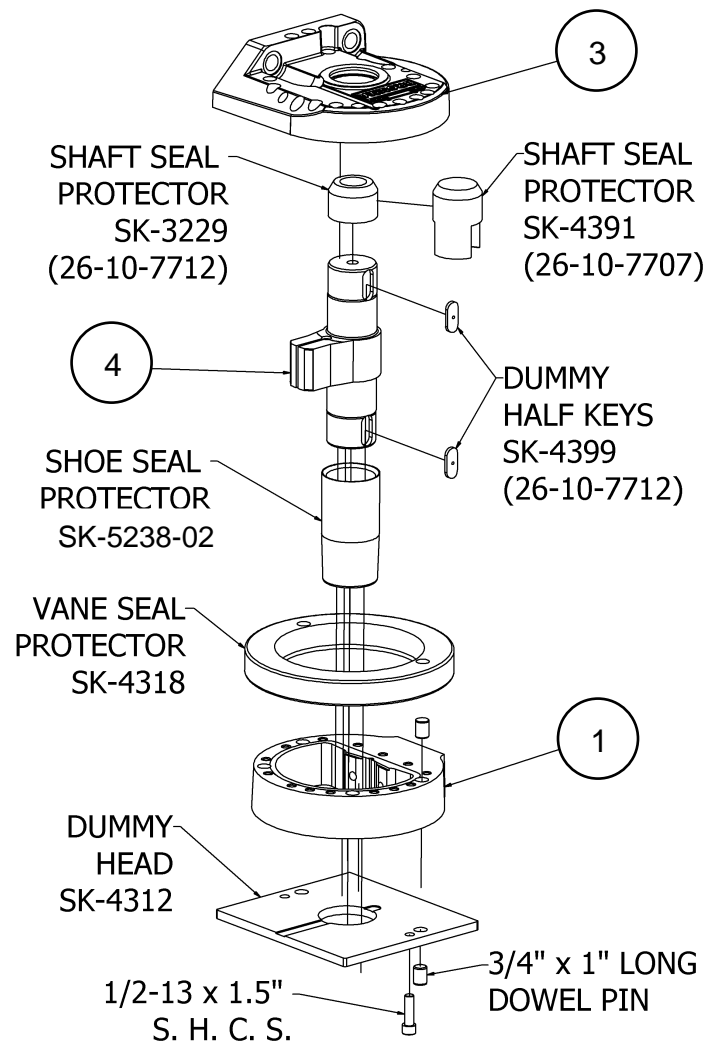

Figure 3 Assembly Tools
During the assembly of the unit, the seals need to be protected. Assembly tools are required to install seal kits. The tools are; a dummy head - to hold the shoe seal during installation, a shoe seal protector, a vane seal protector, and a shaft seal protector (reference fig 3 & table 3). Use a lubricant on all seals and internal parts that is compatible with the driving fluid used. DS-ES Lubriplate by Fiske Brothers is used at the factory. Petroleum jelly is also compatible in most hydraulic systems.
- G. Place two wavy springs (20), hub seal ring (19), and hub seal (18) into the head (3). Ensure that hub seal (18) is free to move axially. **NOTE:** Movement of this seal is essential to the proper performance of the actuator. Seal should be a slip fit on the O.D. of the seal counterbore. Be sure top edge of counterbore is sharp- but burr free.
- H. Place head seal (O-ring) (10) into the groove in the head (3).
- I. Lubricate all seals and internal parts with grease, sufficient to maintain the seals in position when the head is inverted and installed on the body (1)
- J. (Unit 26-10-7707) Install the shaft seal protector onto the head of shaft (4). (See figure 3). Invert the head (3) and carefully slide it down over the shaft. **DO NOT** hammer on the head or allow the hub seal to become dislodged from its cavity as the head is mated to the body. Precisely align the dowel holes in head (3) and body (1). Install two screws (15) 180° apart and tighten the screws to pull the head (3) onto the body (1).
(Unit 26-10-7712) Install the shaft seal protector into the bearing bore of head (3). (See figure 3). Install two dummy keys in shaft (4) keyways. Invert the head (3) and carefully slide it down over the shaft. **DO NOT** hammer on the head or allow the hub seal to become dislodged from its cavity, as the head is mated to the body. Precisely align the dowel holes in head (3) and body (1). Install two screws (15) 180° apart and tighten the screws to pull the head (3) onto the body (1).
- M. Freeze four dowel pins (21) to -67°C and install through complete assembly.
- N. Install remaining twenty-four screws (15) and torque all per table 1.